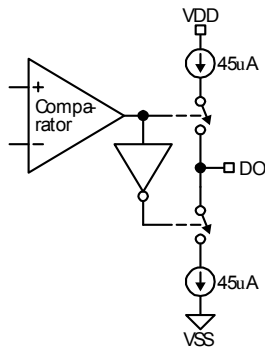

Figure 4. DO Pin
The output stage for the digital output (DO) is shown in Figure 4. The output is a 45 $\mu$ A push and 45 $\mu$ A pull switched-current stage. This output stage is capable of driving CMOS loads. An external buffer-driver is recommended for driving high capacitance loads.